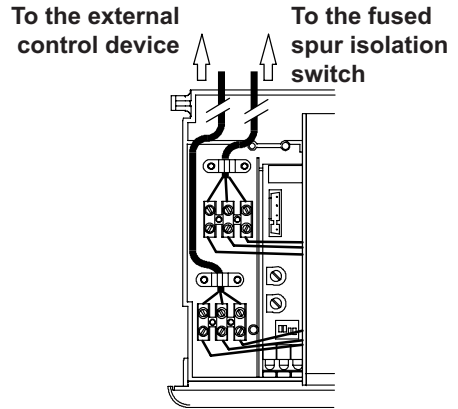

Fig. 6.20
- Route the electrical supply flexible cord and the external control flexible cord as illustrated in Fig. 6.20. Lock the flexible cords in place with the flexible cord clamps